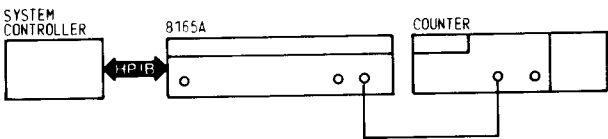

Figure 4–14. Test Setup for HP-IB Operation
1. Connect the equipment as shown in Figure 4–14.